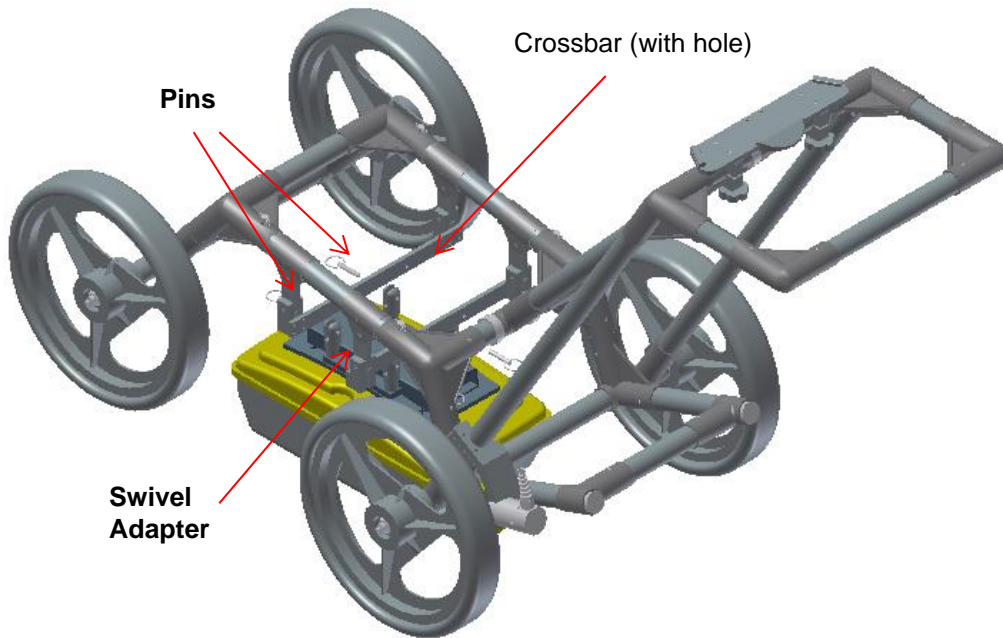

Figure 2-25: Attaching the Noggin 500 and Noggin 1000 to the SmartCart
4. On the bottom of the cart, locate the two flat, moveable crossbars suspended from the separation bars. Each crossbar has two holes, one on each side (Figure 2-25).